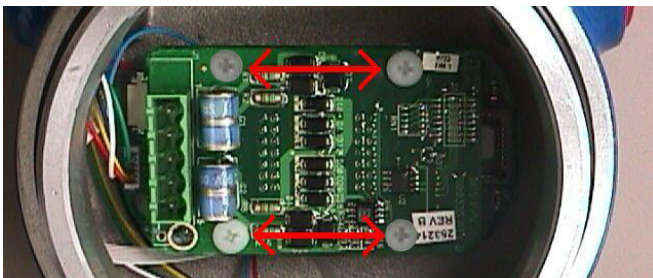

Figure 4. Top electronics board retaining screw locations
4. Remove the existing transmitter electronics by unscrewing the four retaining screws and removing the (top) board. Note the orientation of boards housing before removal to aid in installation of replacement boards (Figure 4).
1. Reconnect the sensing element (SE) connector and DT connector (when available). Before you reconnect the DT to the board, verify that the gold DT connector pins are facing down. Push wing back in lock the DT cable.
3. Install top board and secure with four screws (replacement screws are included with kit). Verify that the orientation of the boards are such that the connectors are all located on the same side as in (Figure 4).